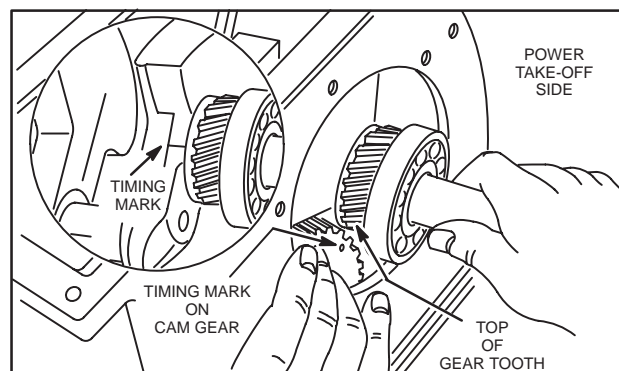

Fig. 887 – TIMING CRANKSHAFT
2. With timing marks aligned, install crankshaft. Use care when installing crankshaft not to damage crankpin, Fig. 887.